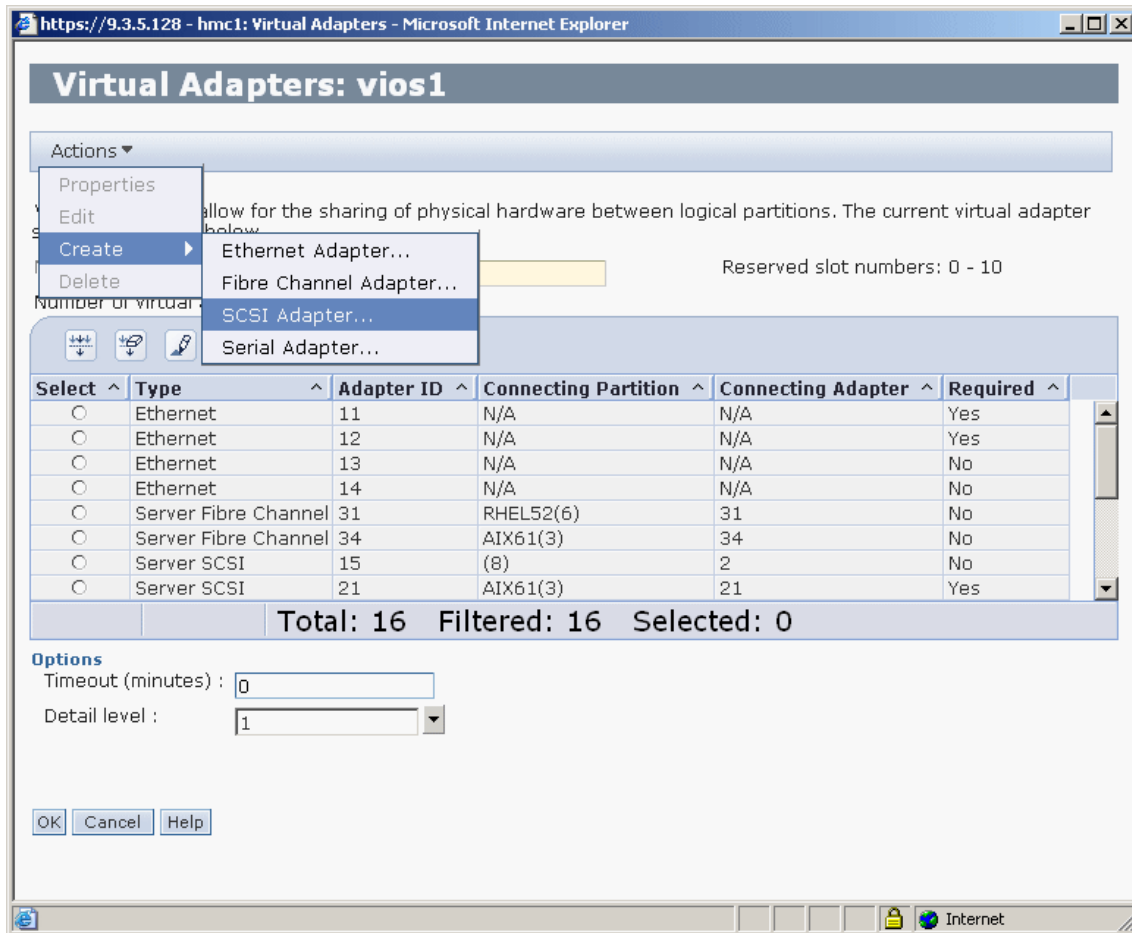

Figure 12-18 Dynamically adding a virtual SCSI adapter
- Click **Actions** and select **Create** followed by the virtual adapter type that you want to add, such as **SCSI Adapter** as shown in Figure 12-18.